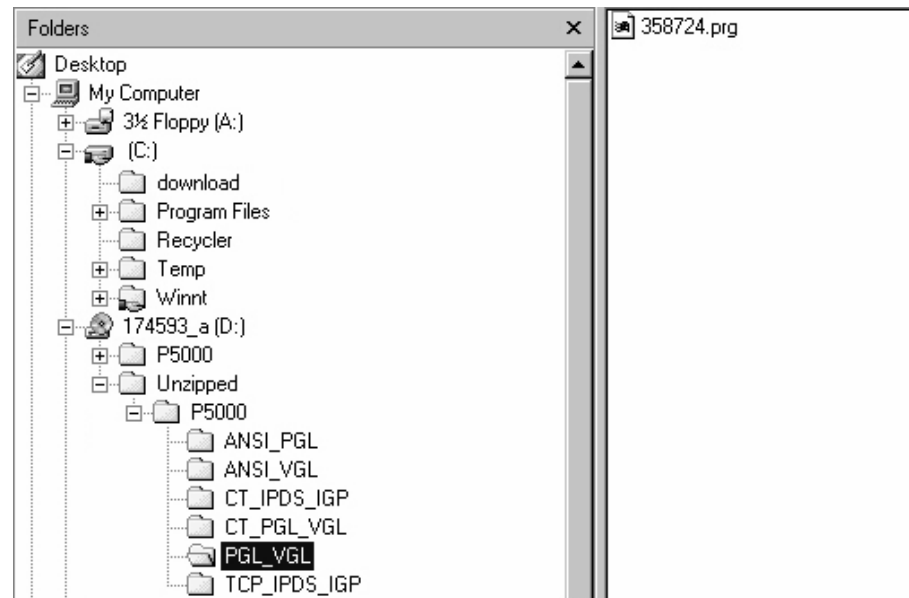

Figure 13. Navigating to the Appropriate Emulation File on the CD-ROM
9. Using Windows Explorer, navigate to the file in the Unzipped directory on the CD-ROM that matches the printer model number and emulation you want. (For example, Unzipped ► P5000 ► PGL_VGL is shown in Figure 13. Your printer and emulation will be different, of course.)
10. Note the filename, which is a six digit number plus **.prg**. (For example, 358724.prg is shown in Figure 13. Your filename may be different, of course.)